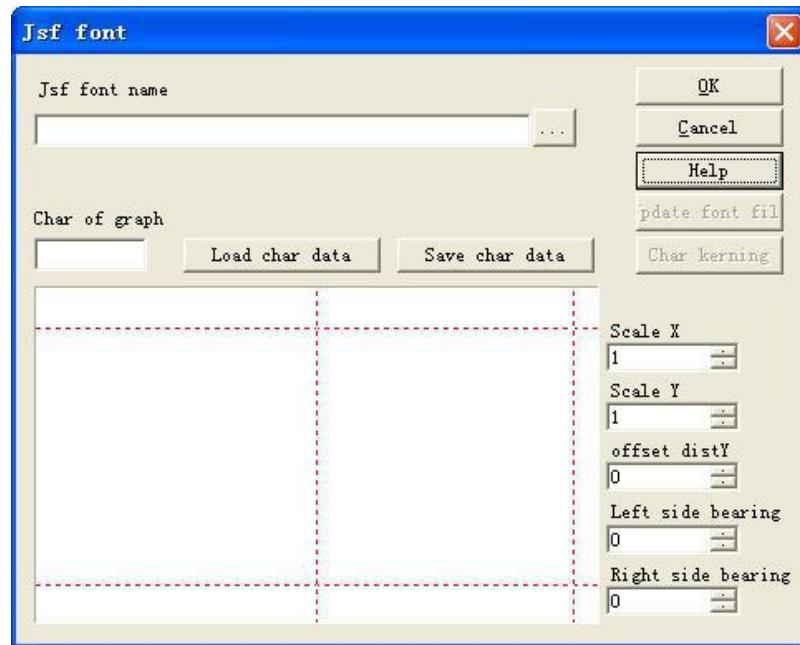

Fig 5-17 JSF font
When the user click JSF font, system will show a dialogue as figure 5-17.
Click "Modify" "JSF Fonts", then shown a font dialogue box as figure 5-17. Click button , and find ezcad2\font catalogue in the dialogue, input "EZRAD0521", and then click the button to indicate dialogue as the follow figure 5-23 .
1. Click "JSF fonts" under "modify" menu, then shown the JSF font dialogue, as the figure 5-17->Click , open the dialogue to find the route: ezcad2\font->Input "EZCAD0521"--